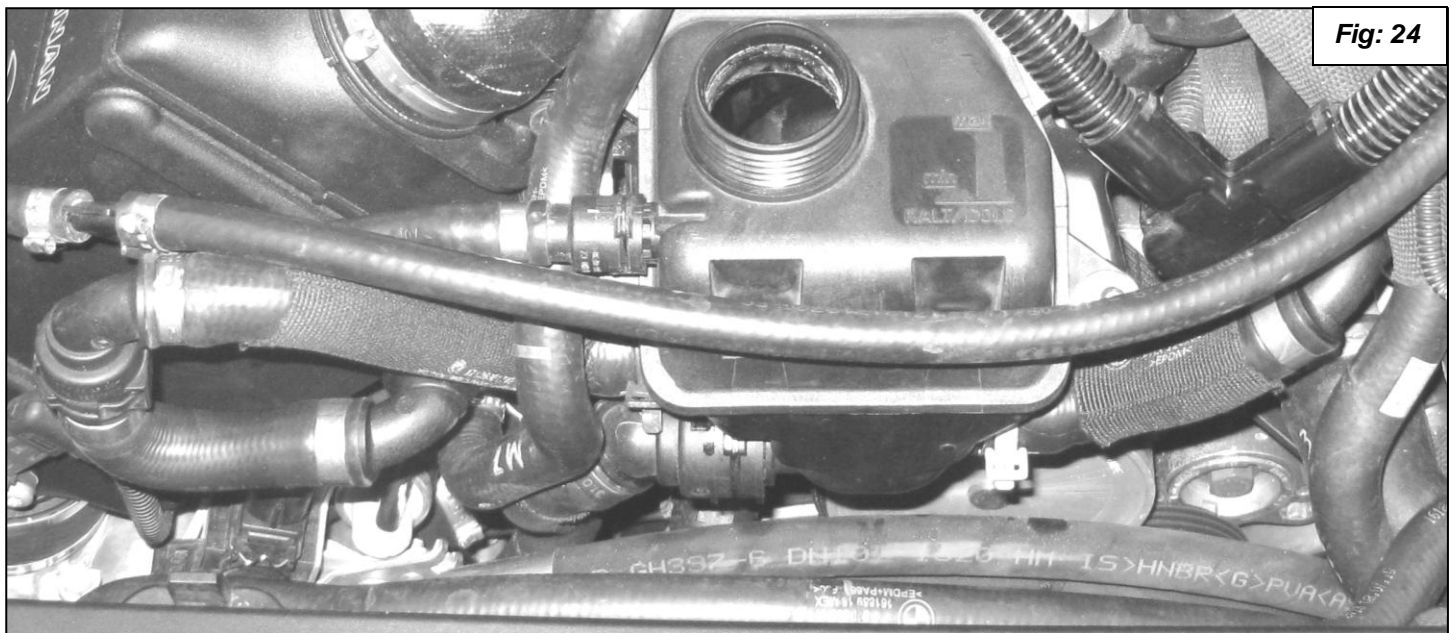

Fig: 24
21. Install the two new hoses that go between the reservoir and the inner nipples on the intercoolers. See figure 24.